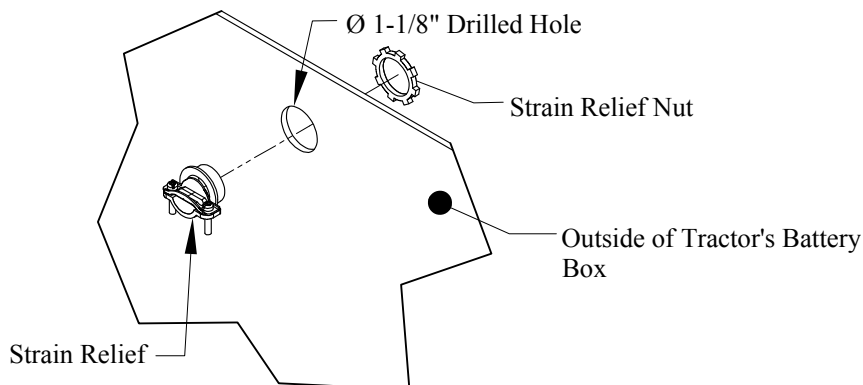

Figure 4: Strain Relief.
2. **Drill** a $\text{Ø}1\text{-}1/8\text{'}$ hole in the tractor's battery box to mount the provided strain relief (Figure 4).
3. **Install** the strain relief in the tractor's battery box with the strain relief nut on the inside of the tractor's battery box (Figure 4).